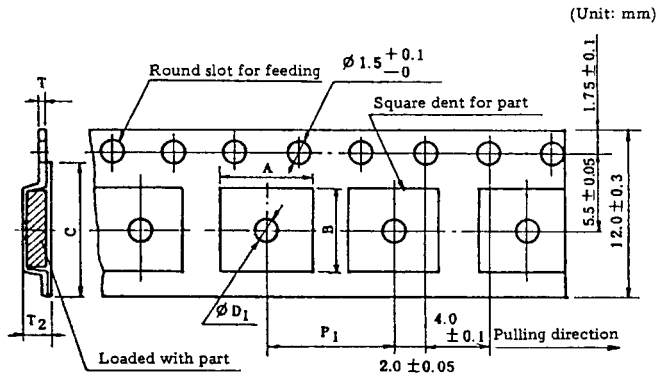

Fig. 6-5 Embossed taping types TE1204 and 1208
(2) Tape shape and dimensions
a) Types TE1204, 1208 (Fig. 6-5)